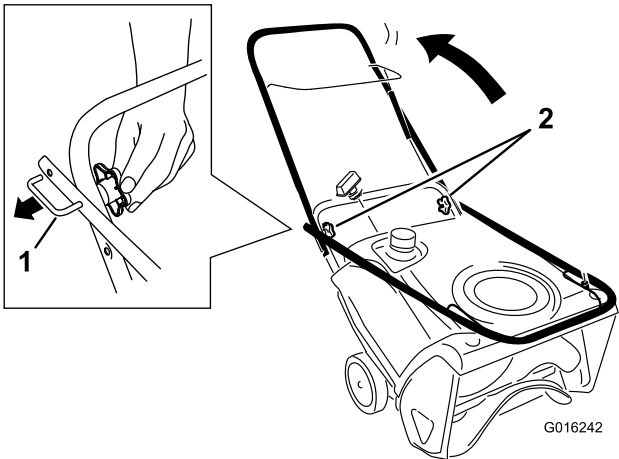

Figure 4
- Loosen the handle knobs, pull out the “U”-shaped handle locks until you can move the handle freely, and rotate the handle to the operating position (Figure 4).